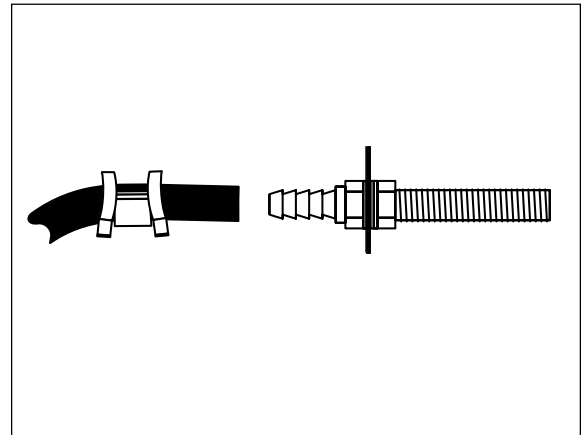

Figure 9
10. Slide air line clamp over the air line. Push air line onto fitting covering all barbs, with pliers slide the air line clamp forward until it fully covers the barbed section (Figure 9).
- Select a location for the inflation valves in the rocker panel flange, or rear bumper, assuring that each valve will be protected and accessible with an air hose (Figure 9).
- Slide a clamp onto the air line and push the air line over the fitting, covering all the barbs. With pliers slide the air line clamp forward until it fully covers the barbed section (Figure 9).